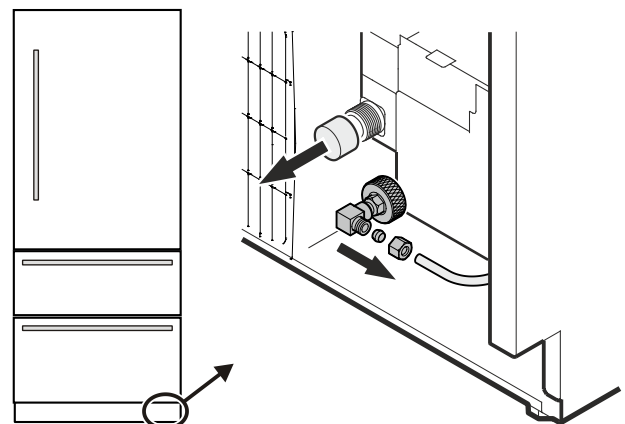

**Figure 15**
4. Push the appliance slowly to the back wall until the compressor mounting plate makes contact with the anti-tipping bracket (**Figure 15**).
**To prevent the appliance from tipping forward the compressor mounting plate must have contact with the anti tipping bracket (Figure 15).**